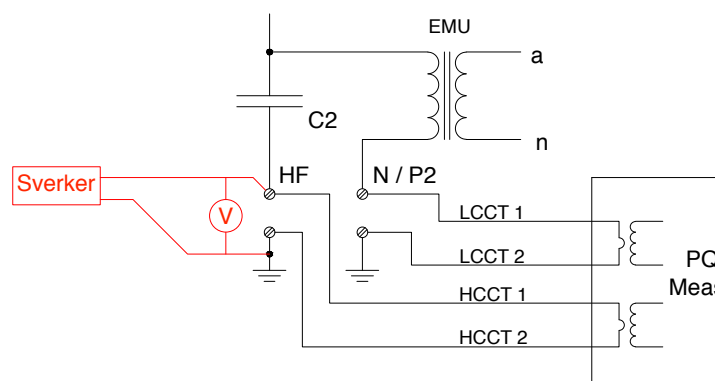

Figure 3
- Using a secondary injection test set (e.g. Sverker) inject 1A ac between the bottom of the capacitor stack (HF) and ground.
- Measure the voltage drop from the bottom of the capacitor stack to ground (Figure 3)